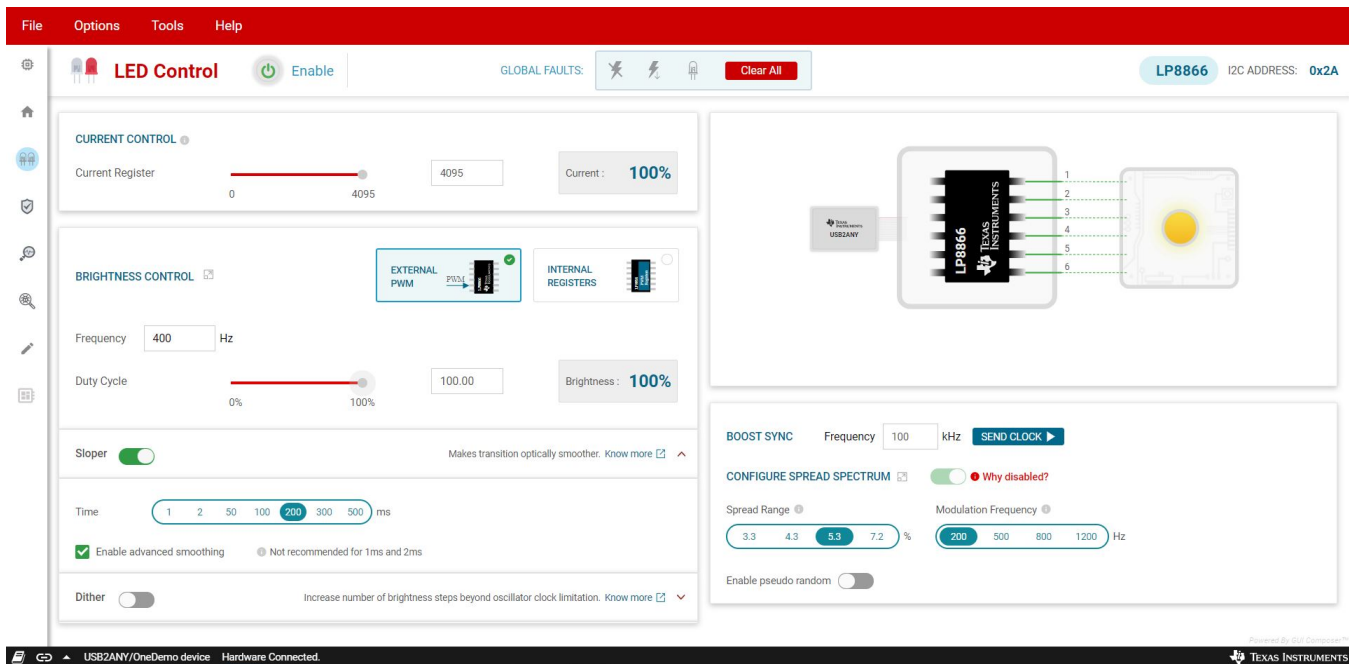

Figure 5. LP8866EVM LED Control Page
4. Click "Start" to go to the LED Control page (see Figure 5). On the LED Control page, the user can control all the register based control functions of the device, like brightness control, current control, sloper control, dither control, boost synchronization configuration and spread spectrum configuration.